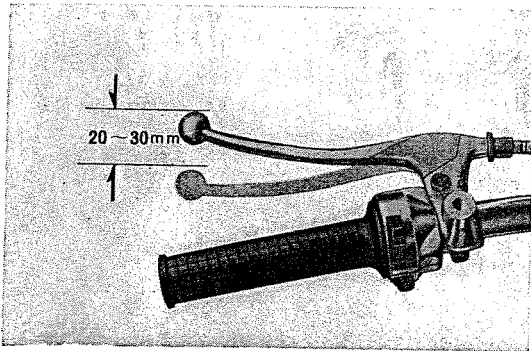

Fig. 6.26 Clutch lever play
b. The amount of movement of the tip of the clutch lever is called play, from (a) to (b). The movement should be from 20 to 30 mm. (.78" to 1.17") (Refer to Fig. 6.26)